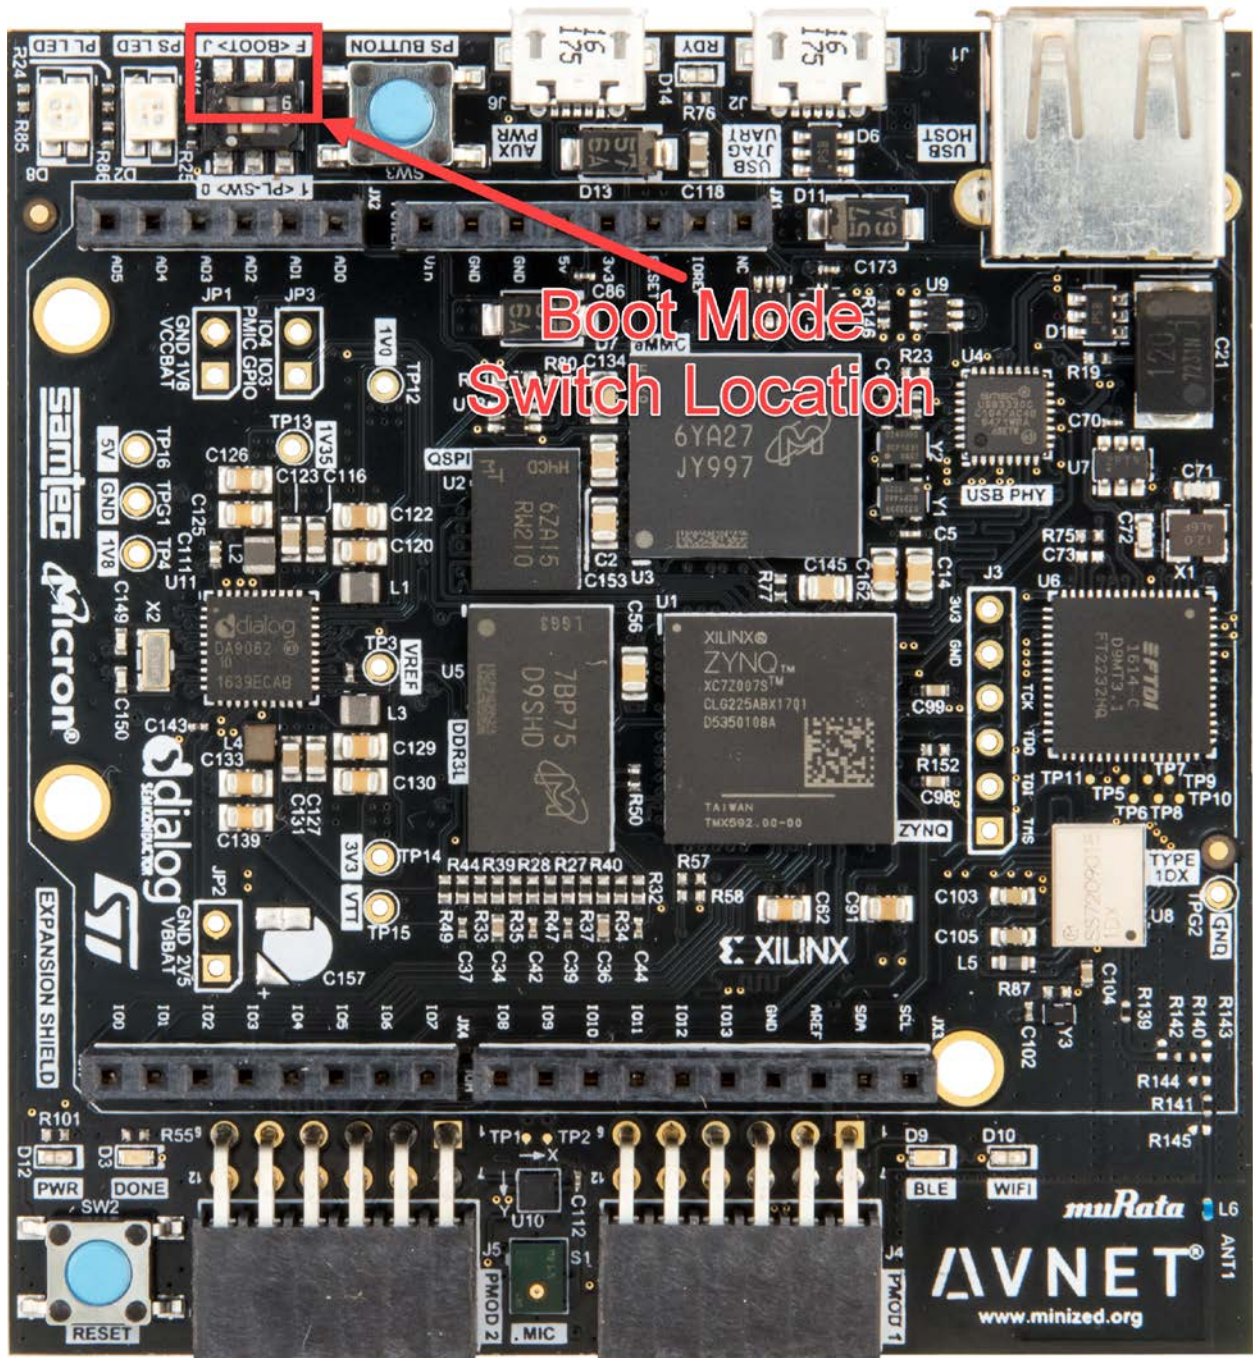

Figure 16 – MiniZed Switch Location
- In this case the boot mode select switch will be one of two switches in a dual surface mount switch (SW1). The second switch will go to the PL as a user select input. See Figure 16 for MiniZed Switch Location and for Boot Mode configuration see Figure 17.